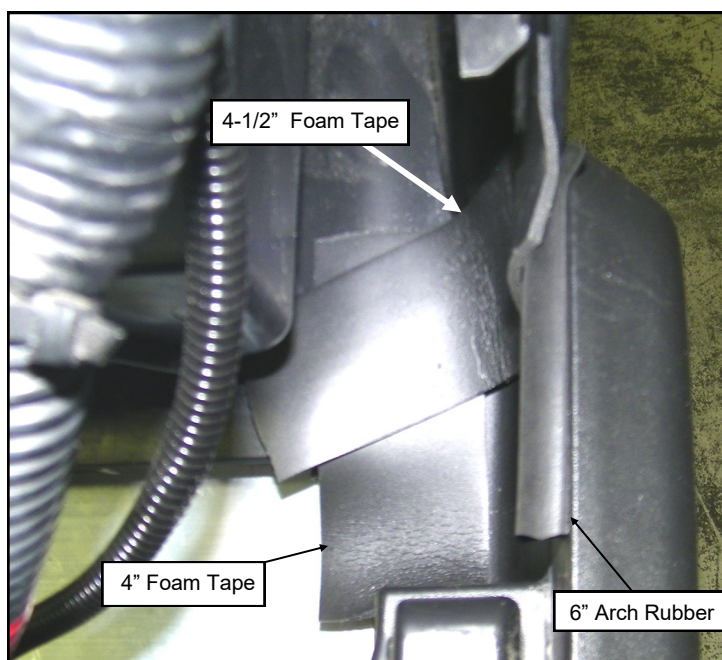

Figure 1.4: Under-hood Rubber (left side shown)
1.4 Apply a 4" long and 4-1/2" long 2" foam tape strip to both sides of the front compartment near the rear corner (**Figure 1.4**).